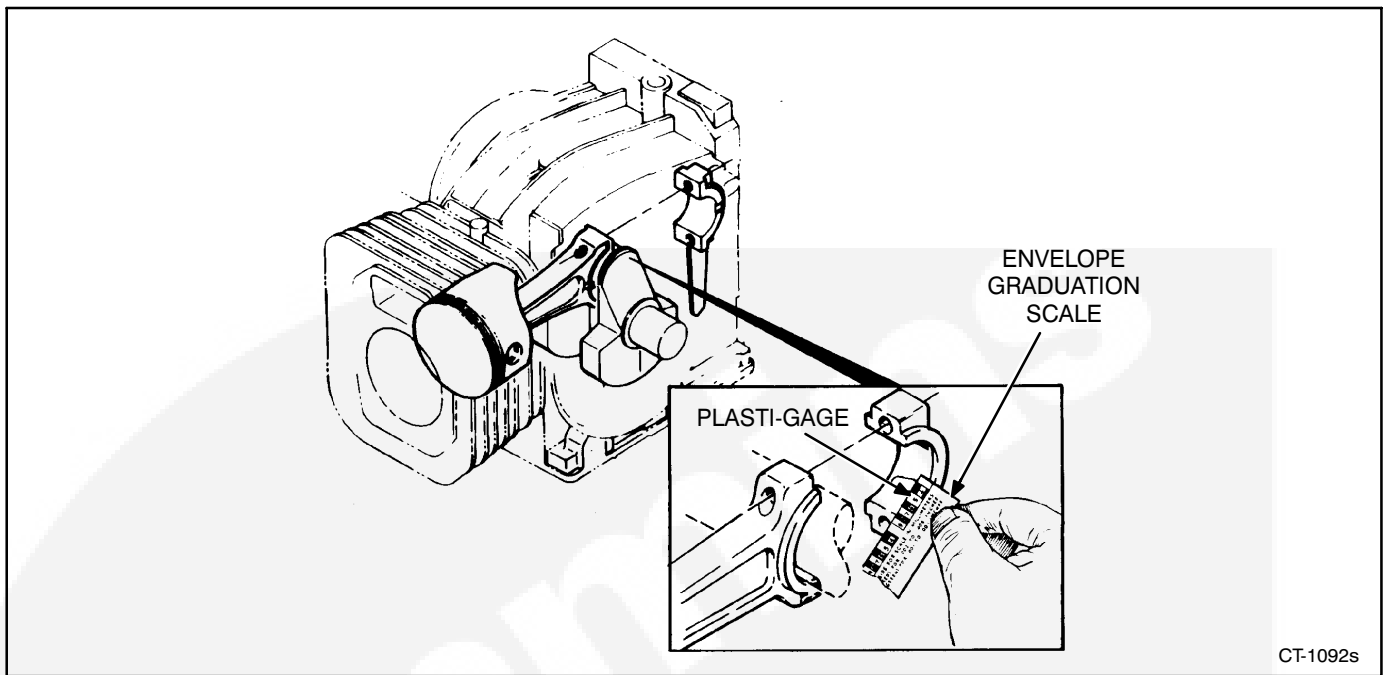

FIGURE 10-25. MEASURING CRANKPIN CLEARANCE
4. Remove the rod cap and leave the flattened Plasti-gage on the part to which it adheres. Compare the widest point of the flattened Plasti-gage with the graduations on the envelope (see Figure 10-25) to determine the crankpin clearance.